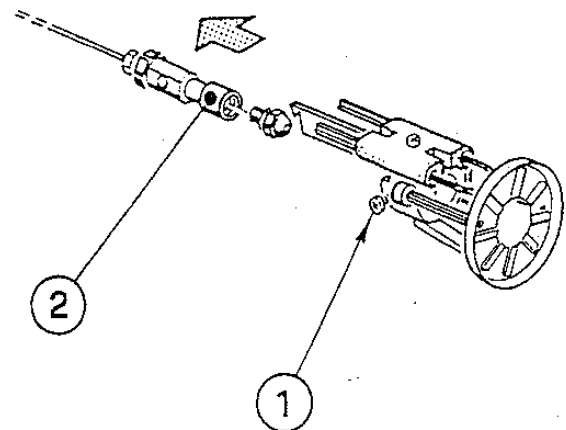

Figure 5: Nozzle Replacement
- b. **Nozzle Replacement**, refer to Figure 5.